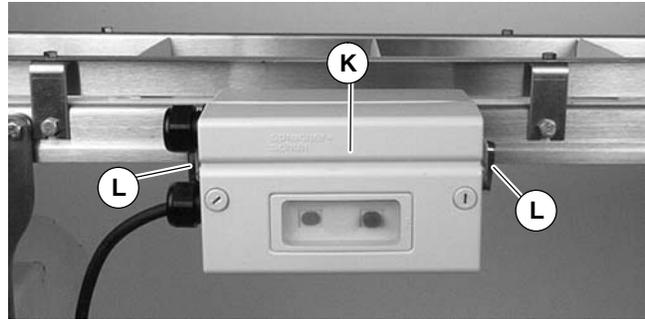

Figure 13
- Attach motor starter (K of Figure 13) to clips with screws (L). Tighten to 92 in-lb (10.4 Nm).